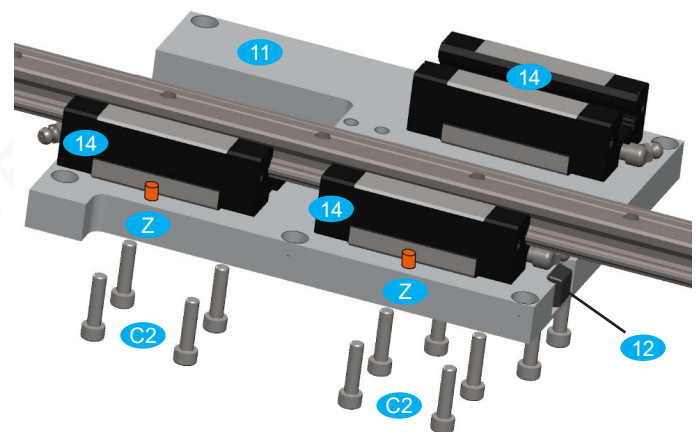

Fig. 23: Assembly of the carriages
- Slide the linear rail **18** into the two carriages as shown in Figure 23. Press the carriage with the linear rail against the cylindrical pins and screw the two carriages tight in this position. Tightening torque: 6 Nm